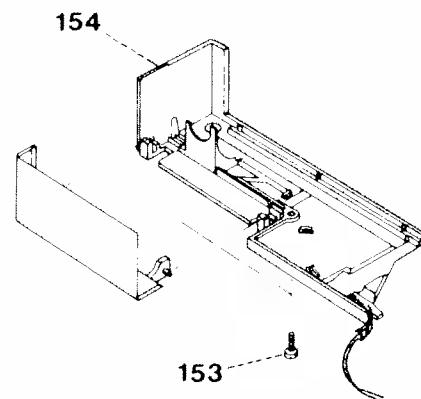

Fig. 29b
- Unscrew the two screws 153 of the free-arm cover (Fig. 29b).